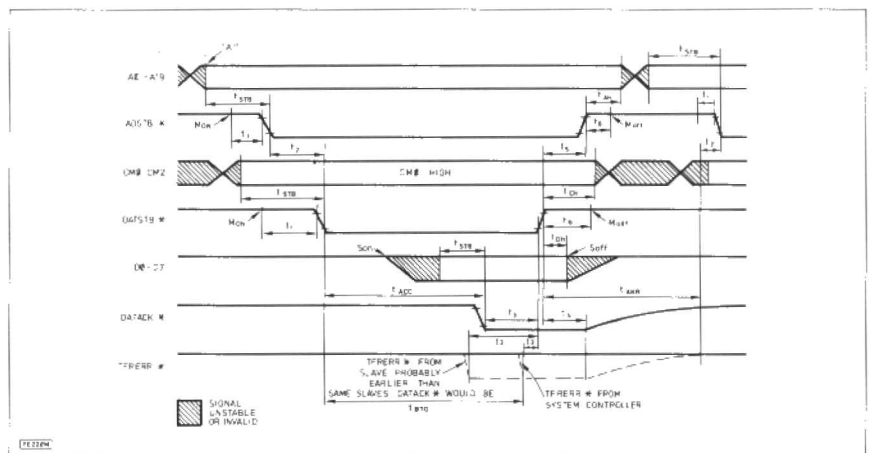

Fig.2. The Read sequence
(1) The Read Sequence (see Fig. 2). This basic form covers memory reads, I/O reads and bus vector fetches. These three read operations differ only in the number of address lines which convey significant information and the levels of command lines CM1 and CM2 which define the slave function addressed.
If Fig. 2 looks a bit daunting, fear not. All the time periods with labels containing numeric subscripts have a common feature. That is $t_1, t_2 \dots t_n$ all have a minimum length of 0nS and no defined maximum length. They are there solely to indicate the sequential order of events. They indicate that the two events that they link can happen simultaneously, or the right-hand event can happen at any time after the left-hand event, but that the right-hand event must not be allowed to happen before the left-
hand event (the signal levels pictured in Fig. 2 are those to be found by attaching high impedance, low capacitance probes to the relevant lines of the backplane). Thus when testing a new board design one should ideally test to make sure that the correct signal sequences are received at each other slot in the system. By specifying the signal sequences in this way it is left up to the board designer to ensure that the design meets the standard, regardless of the particular characteristics of the bus drivers and internal timing logic that are employed.